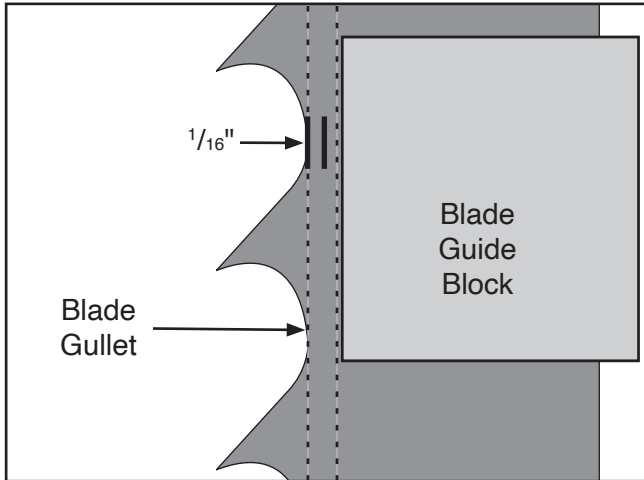

Figure 38. Lateral adjustment of blade guides.
5. Move the guides forward or backward to position them laterally, so that the edges of the blocks are $\frac{1}{16}$ " behind the blade gullets, as illustrated in **Figure 38**.